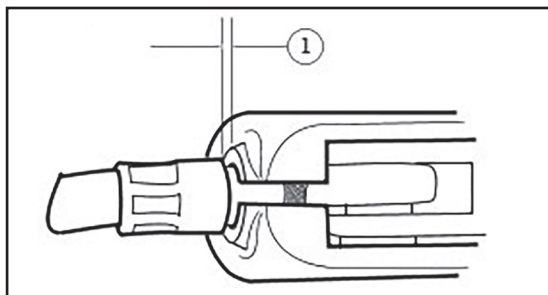

Figure 2. Clutch Cable Adjustment
3. Re-install the clutch cable and clutch lever, mirror and pivot pin and snap ring. See Figure 2. Re-adjust the clutch cable so there is a 1/16-1/8 inch (1.6-3.1 mm) gap between the clutch cable ferrule and the end of the clutch bracket (1).